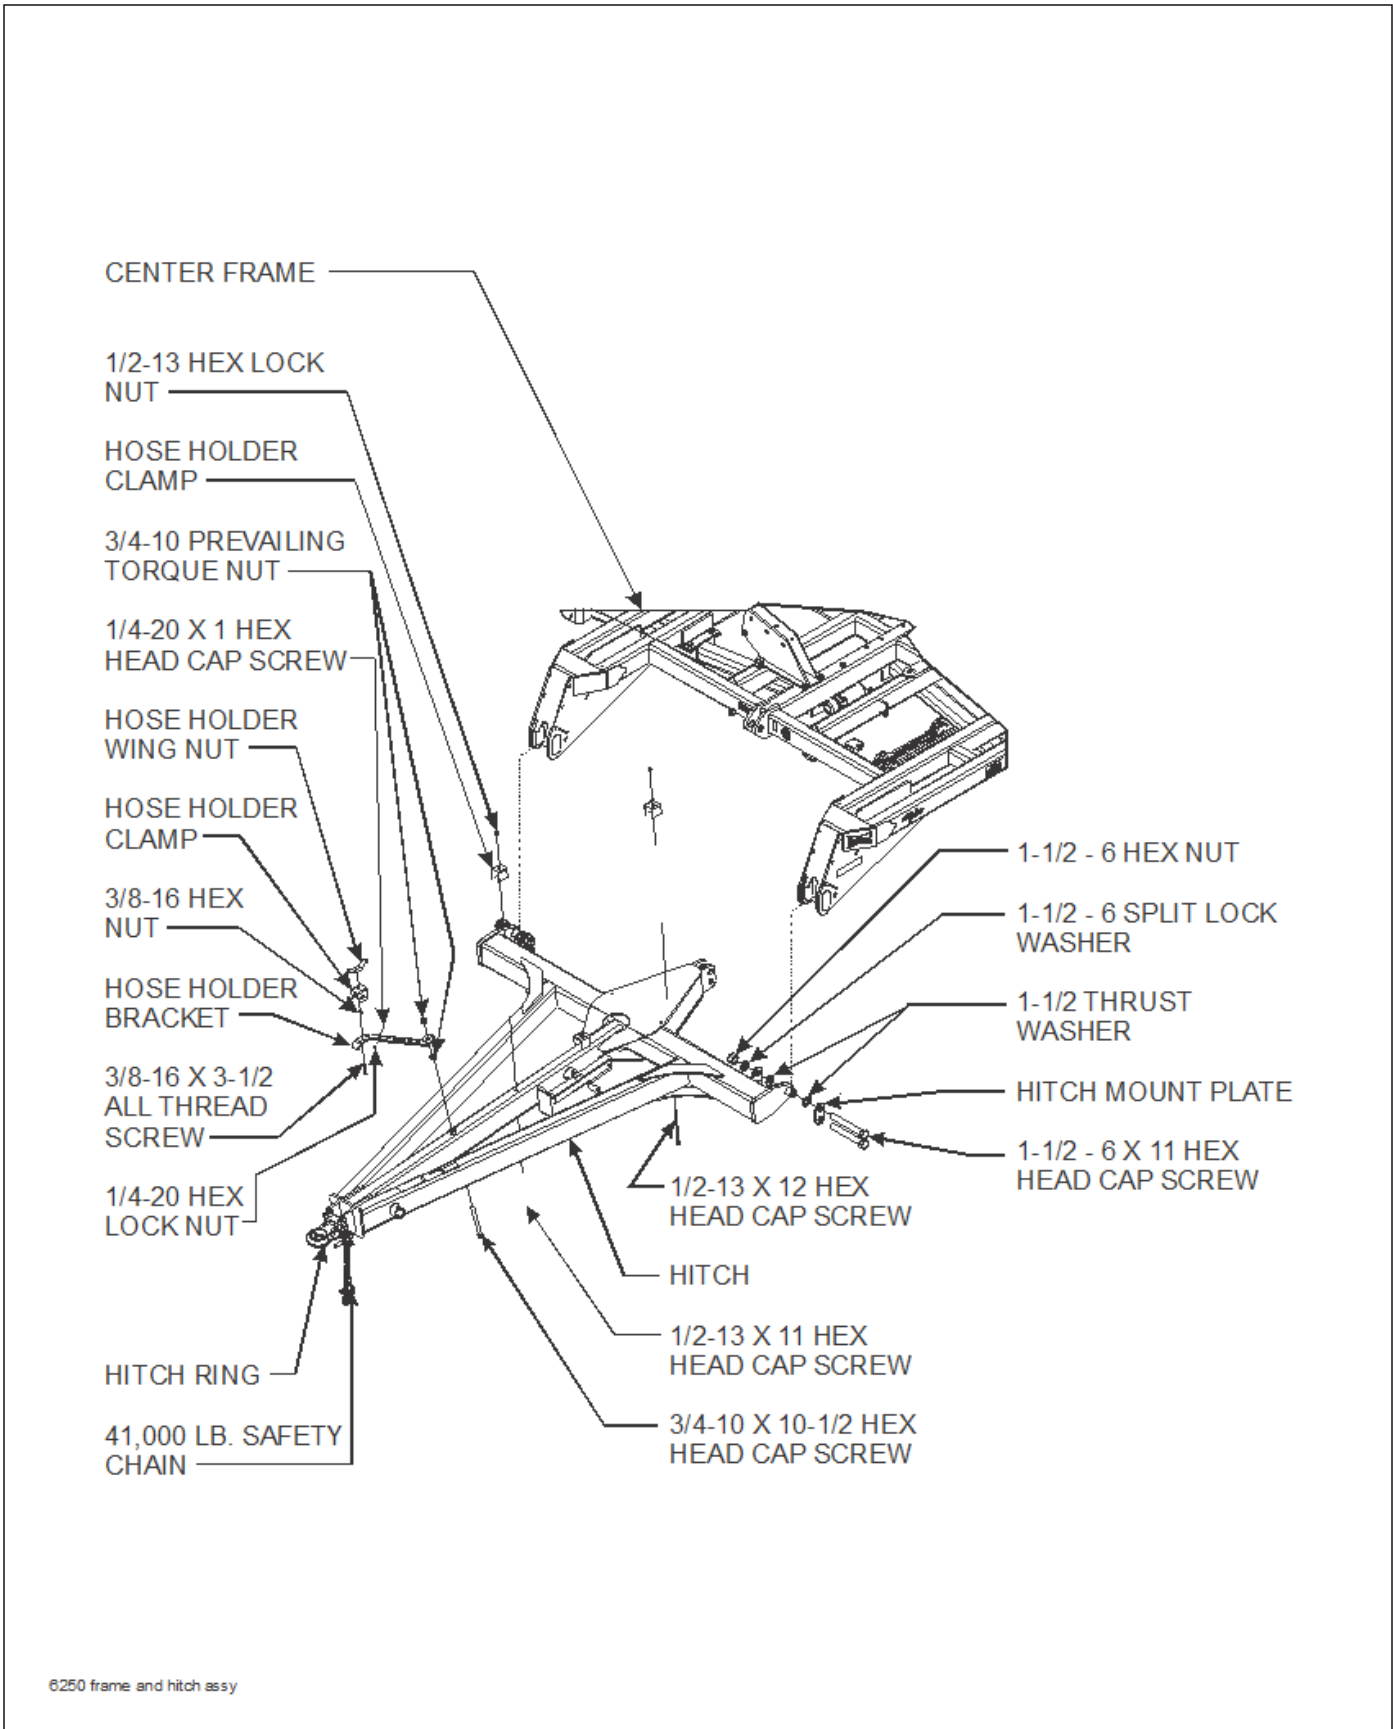

Figure 3-8: Frame and Hitch Assembly Installation
1. Attach the hitch weldment to the front of the center frame using 1-1/2-6 x 11 hex head cap screws, 1-1/2 thrust washers, split lock washer, hitch mounting plates, and hex nuts (**See Figure 3-8.**)